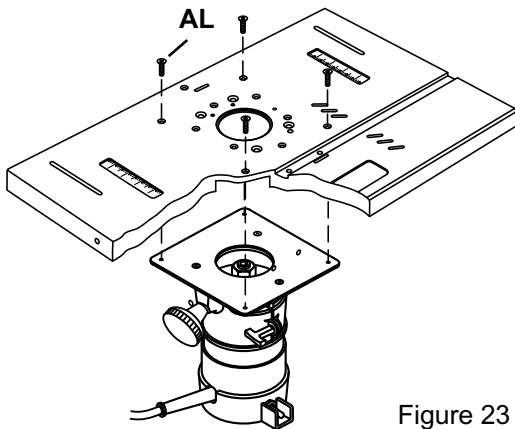

Figure 23
4. Insert 4 flathead sink screws (BA) through the holes and tighten them securely. See Figure 23.